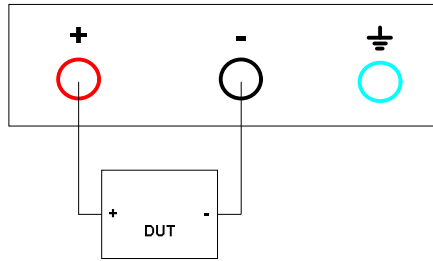

Figure 2 Connecting a Device to the Front Panel
2. Connect two wires from either the front panel binding posts, as shown in Figure 2 below, or the rear panel DRIVE+ and DRIVE- terminals to your device under test.